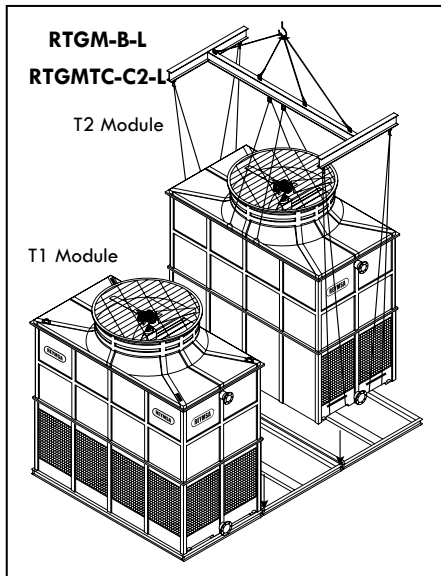
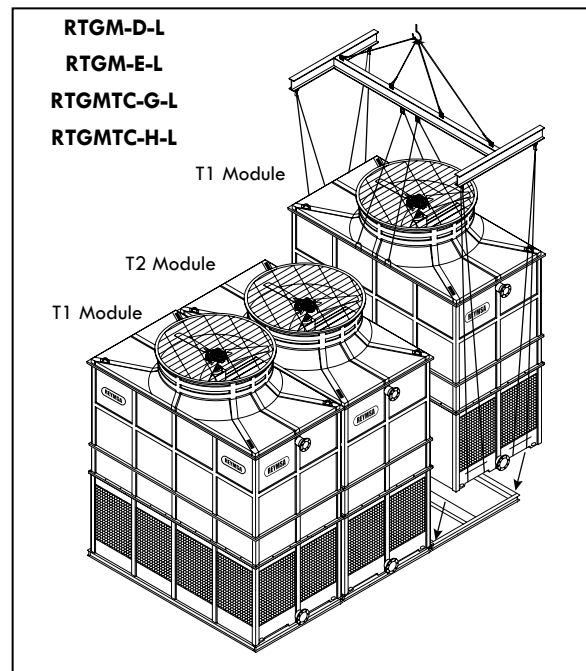

Figure A-96: L-Orientation - T2 module lifting and installation (RTGM-B-L or RTGMTC-C2-L)
Figure A-99: L-Orientation - Last T1 module lifting and installation (RTGM-D-L, RTGM-E-L, RTGMTC-G-L & RTGMTC-H-L)
B. Repeat the previous steps to install the remaining modules. Pay attention to the correct module arrangement; Each module is labeled alphabetically (module 1: A; module 2: B, etc.) for a proper installation see Figure A-96 to Figure A-99).